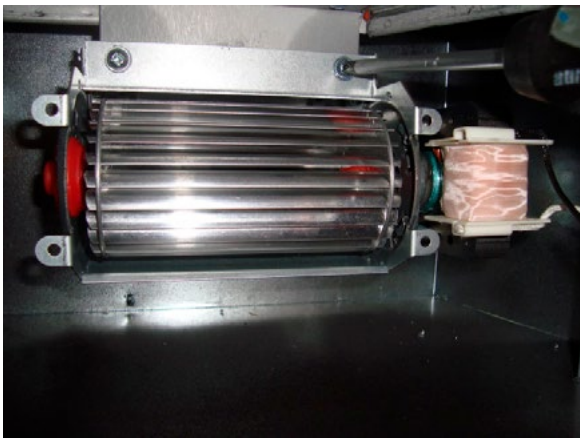

Figure 4 Install left fan to bracket
2. Install the left fan as shown in **Figure 4** to the bracket underneath the firebox using the screws supplied (motor should be oriented towards the back side of the fireplace).